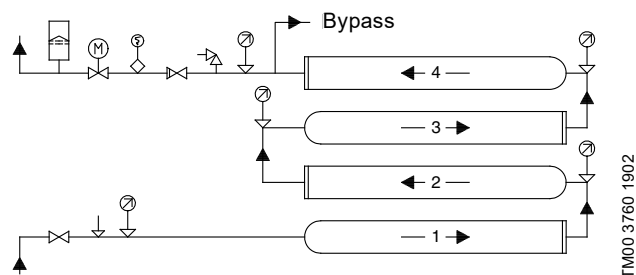

Fig. 6 Booster system with four modules connected in series, mounted above each other
- For modules connected in series, mounted above each other, we recommend to connect the pipes as shown in fig. 6.
Symbols used in figures 6 to 9:
1. Close the isolating valve on the outlet side of module 1 (figures 6 to 9) to approximately 1/3 of maximum flow rate.